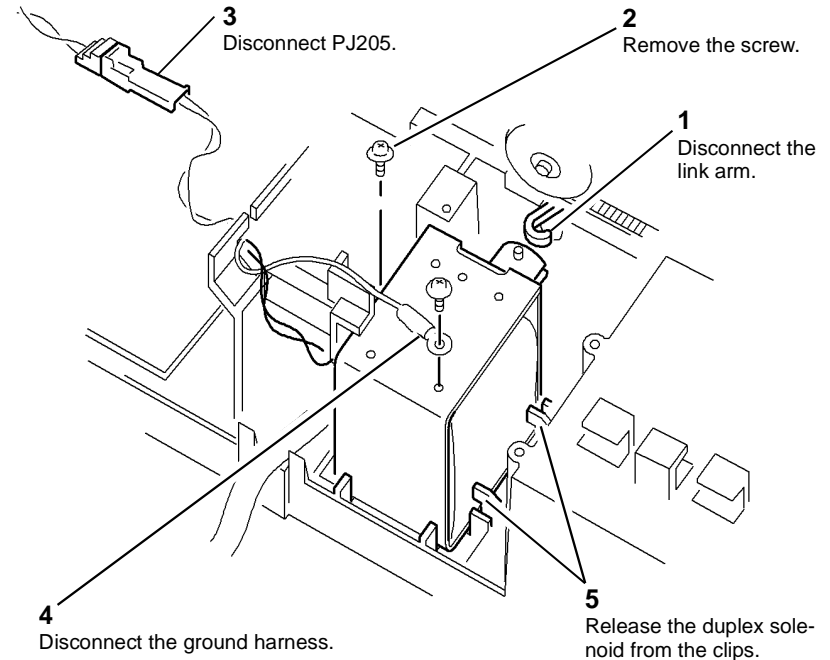

Figure 3 Duplex solenoid
4. Remove the duplex solenoid, Figure 3.